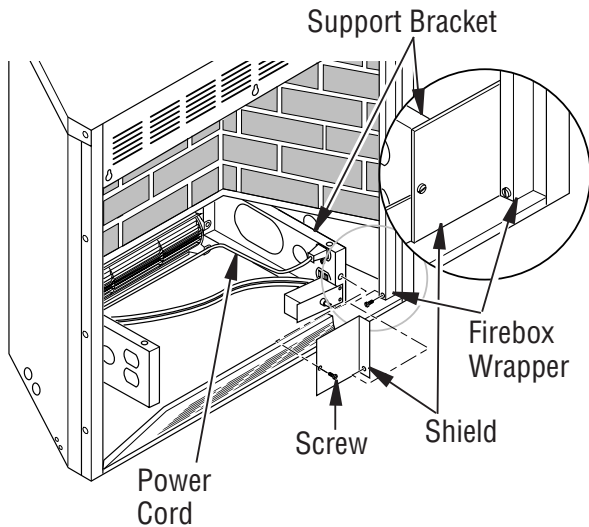

Figure 15 - Installing Shield to Support Bracket
5. Install shield to end of right support bracket and behind the firebox wrapper with 2 screws provided (see **Figure 15, Page 12**).